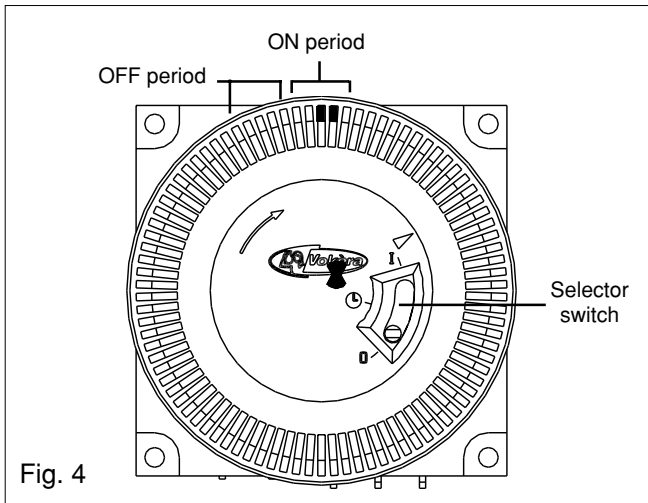

Fig. 4
- Repeatedly press the Prog. Button until the — :— symbol appears in the clock display (fig. 4).